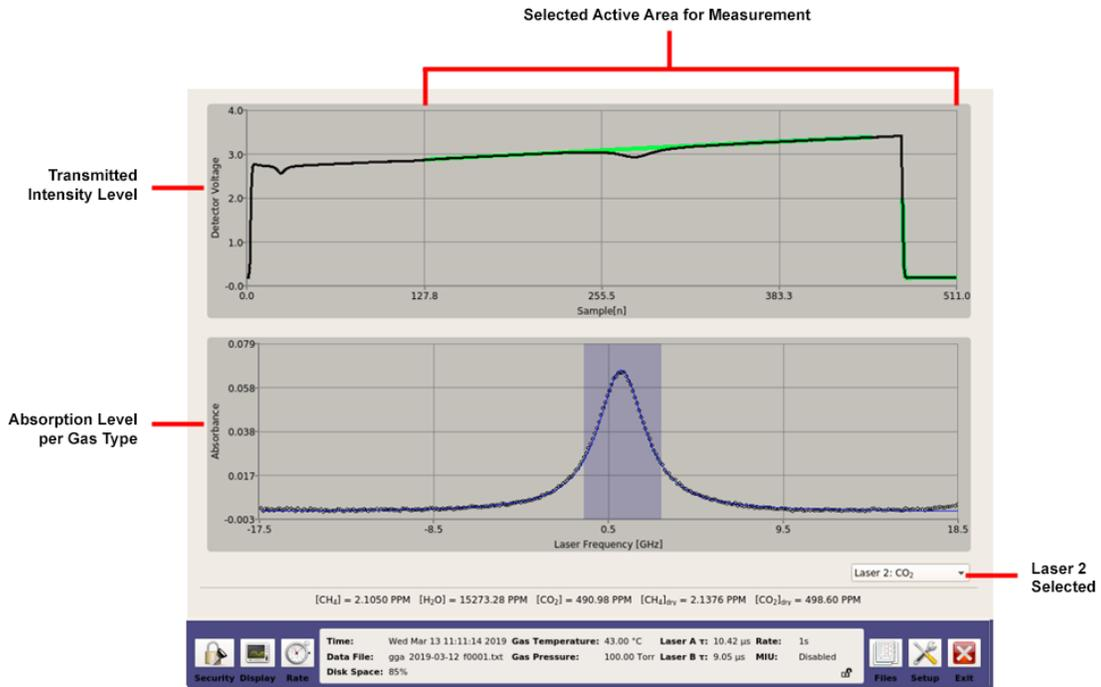

Figure 28: Spectrum Display Screen for Laser 2
- Laser 2 (also referred to as laser B) displays the CO₂ peak. (Figure 28)